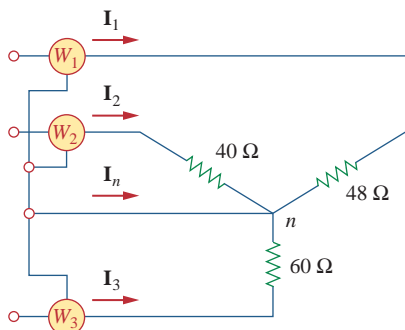

Figure 12.71
- 12.66** A three-phase, four-wire system operating with a 208-V line voltage is shown in Fig. 12.71. The source voltages are balanced. The power absorbed by the resistive wye-connected load is measured by the three-wattmeter method. Calculate: